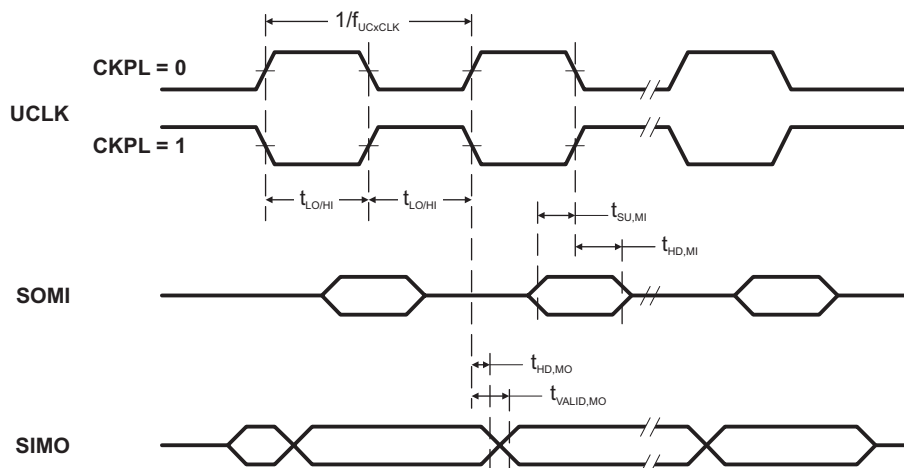
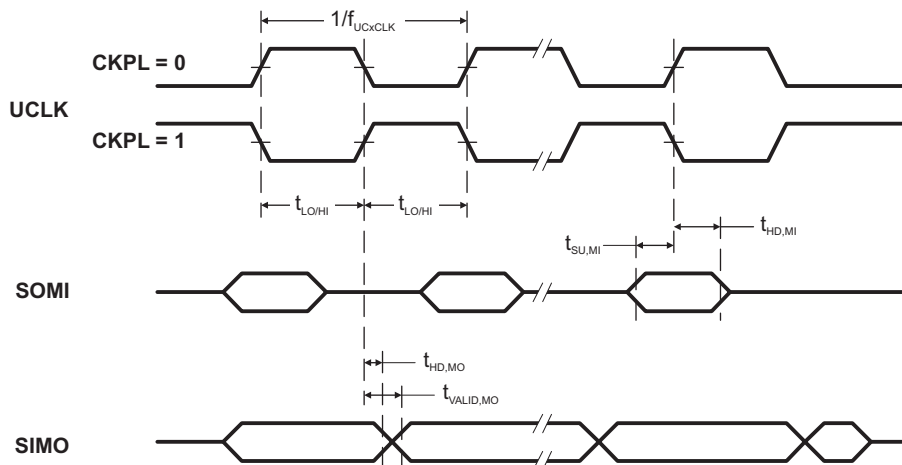

Figure 3. SPI Master Mode, CKPH = 0
Figure 4. SPI Master Mode, CKPH = 1
(see Note ⁽¹⁾, Figure 3, and Figure 4)
- (2) Specifies the time to drive the next valid data to the SIMO output after the output changing UCLK clock edge. Refer to the timing diagrams in Figure 3 and Figure 4.
- (3) Specifies how long data on the SIMO output is valid after the output changing UCLK clock edge. Negative values indicate that the data on the SIMO output can become invalid before the output changing clock edge observed on UCLK. Refer to the timing diagrams in Figure 3 and Figure 4.